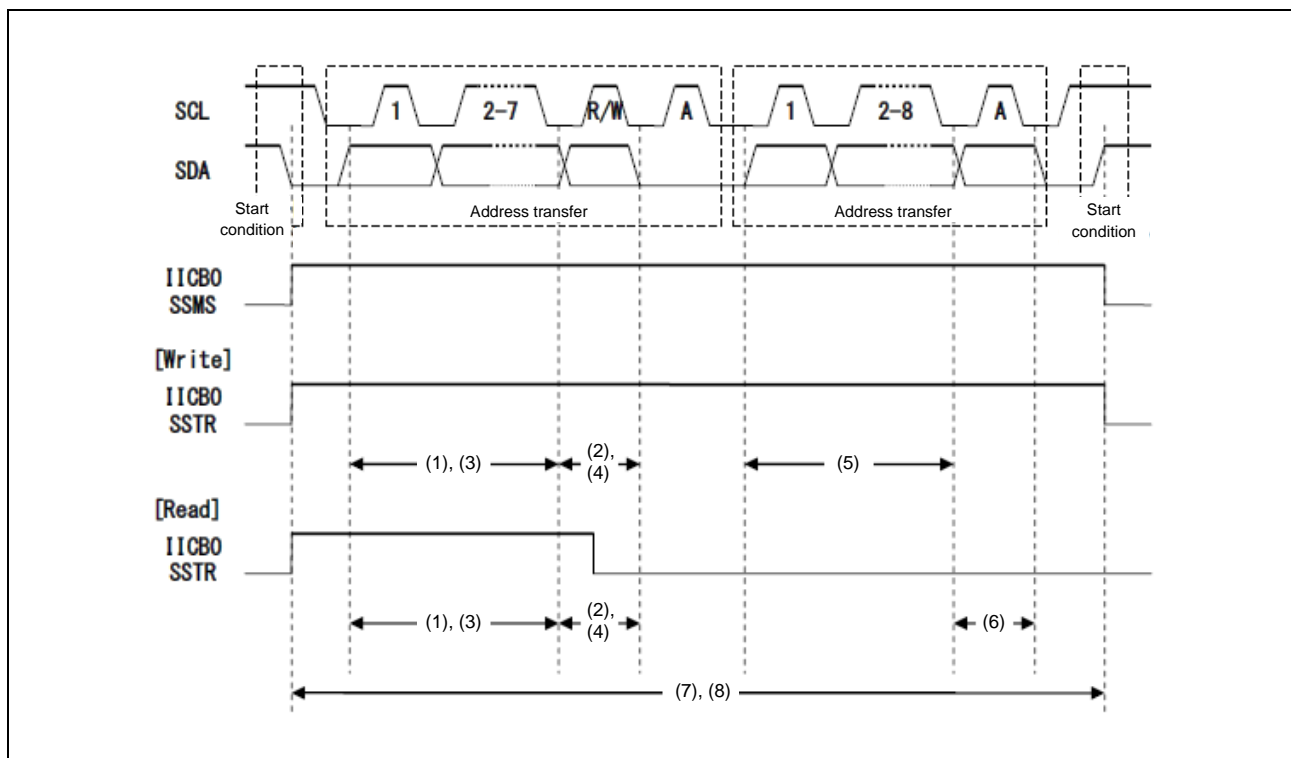

Figure 29.6-12 Arbitration Checking Range (from (1) to (8))
**Figure 29.6-12** shows the checking range from (1) to (8).